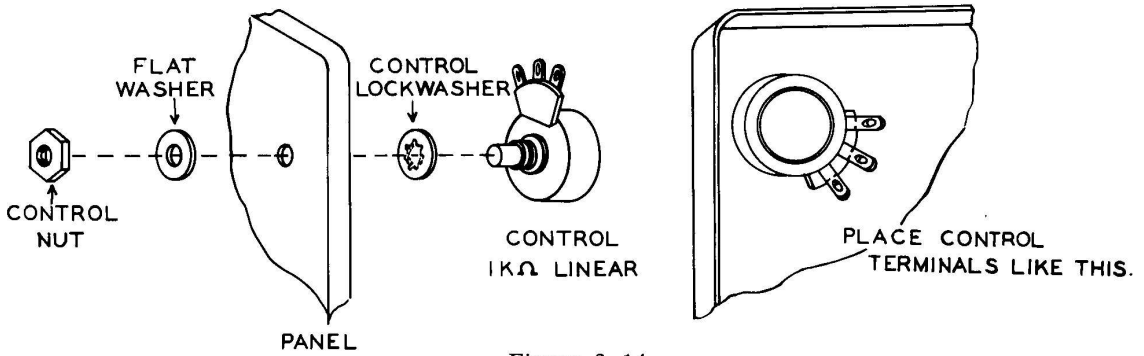

Figure 3-14
- (1) Mount the  $1000\ \Omega$  control next to the words "OHMS-ADJ", with terminals as indicated by Figure 3-14. Attach the small black knob to the shaft.